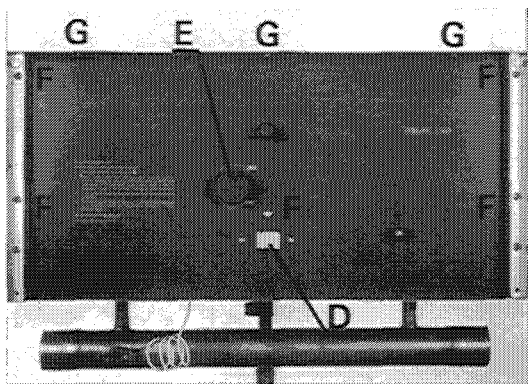

Fig. 19
e) The boiler is now ready to operate and will light when switched on at ON/OFF switch and thermostat is turned to + which starts the pump (D and E fig. 19).
- Fit control module cover, secure with five screws two each side and one in centre (F fig. 19).
- Fit front panel by hooking on pegs at top of boiler and secure with three screws G along bottom (fig. 19).
- The hinges are held in position by a metal strap (fig. 19).